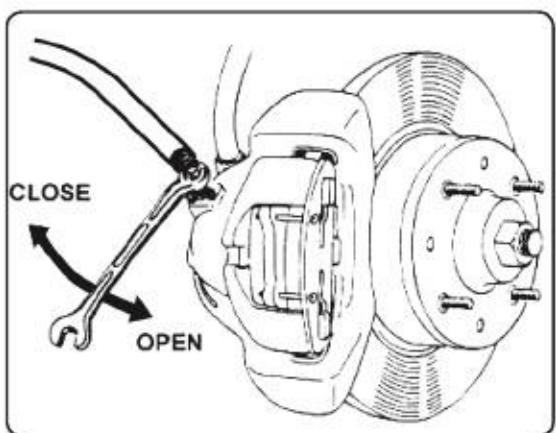
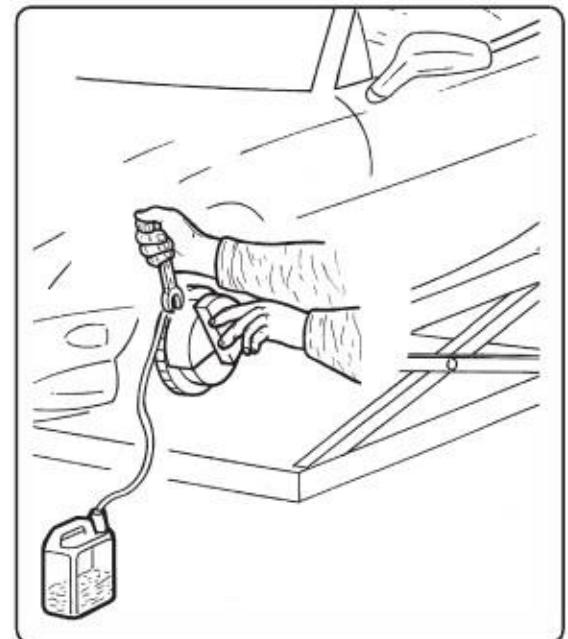

Fig. 6
Fig. 7
- 3.2.4. Starting with the wheel furthest away from the brake fluid reservoir, connect one end of the tube from the bleed bottle to the brake nipple and, using a brake spanner, open the nipple approximately  $\frac{1}{4}$  turn (fig.6 - fig.7), brake fluid will flow through the clear pipe into the bottle, when there are no visible bubbles in the fluid, tighten the bleed nipple and remove the pipe, taking care not to spill any brake fluid.